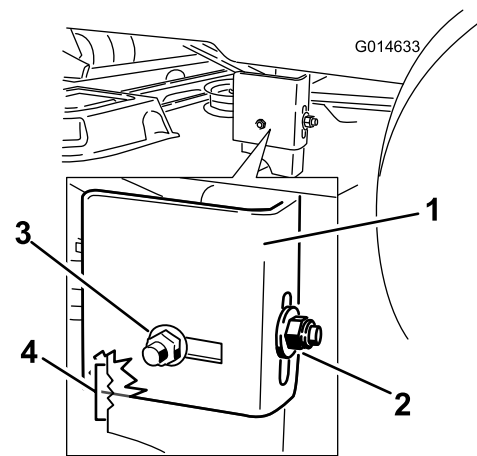

Figure 51
8. Check if the side carriage bolt is in the fixed or slotted position (Figure 51).
9. If the side carriage bolt is in the fixed position, remove the side carriage bolt and side locking nut from the fixed position and install it into the slotted adjustment position (Figure 51).
10. Loosen the rear locking nut on the hanger bracket (Figure 51).